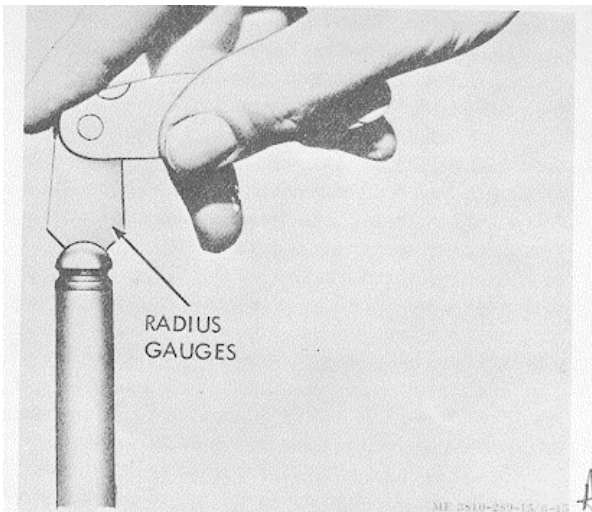

Figure 3-148. Checking push tube ball end with radius gage.
(1) Clean push rods in an approved solvent.
(2) Check injector and valve push rod ball end with radius gage for wear, figure 3-148.